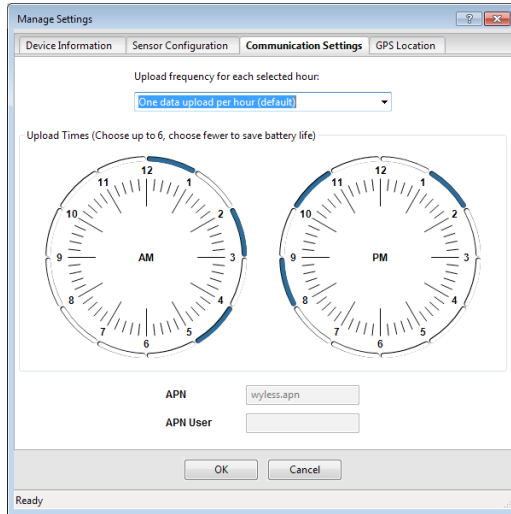

**Figure 5** Select Sensor Type dropdown
10. Ensure the correct sensor type is listed in each port tab (Figure 5).